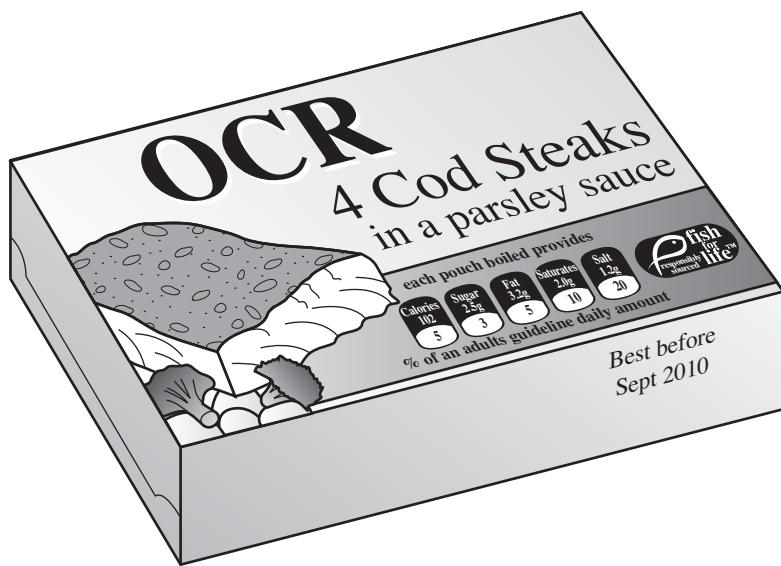

Fig. 4
Fig. 4 shows a frozen fish product.
- (a) Give **four** design requirements for the frozen fish product shown in Fig. 4. Justify each requirement.
- (ii) Describe, in detail, how the frozen fish product in Fig. 4 would be manufactured.